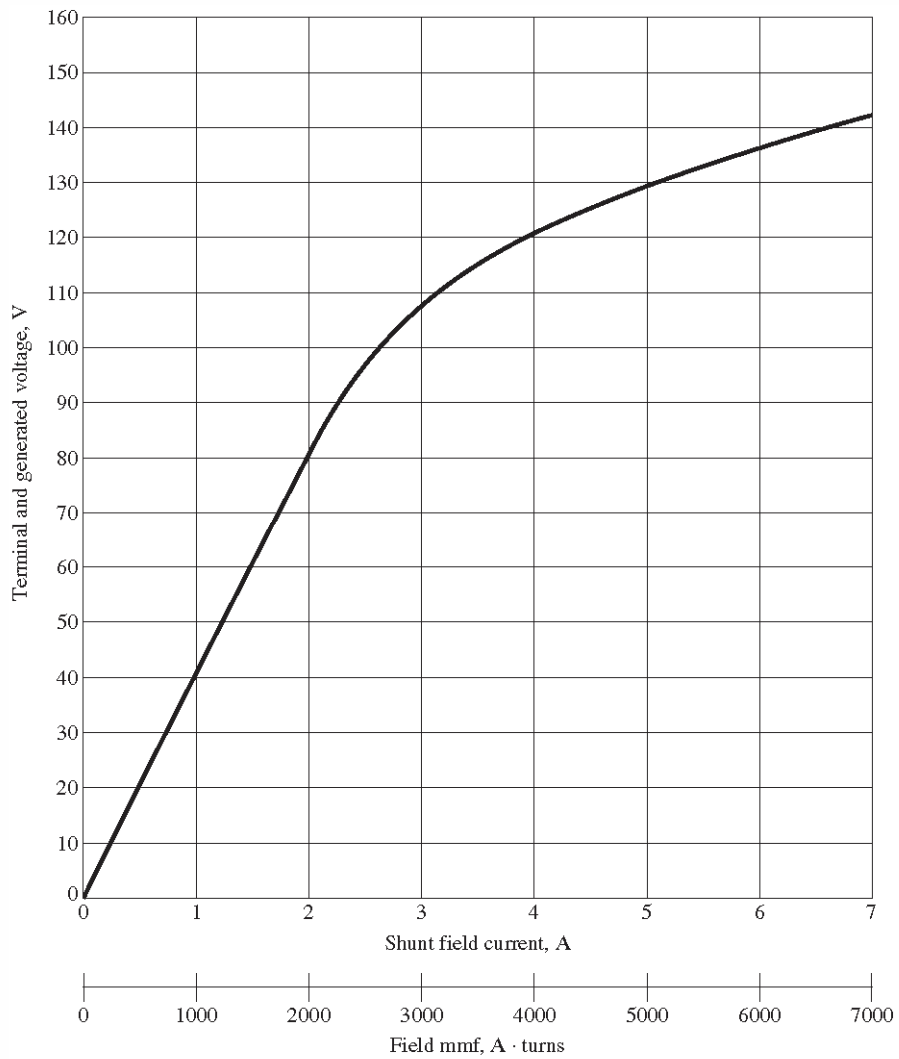
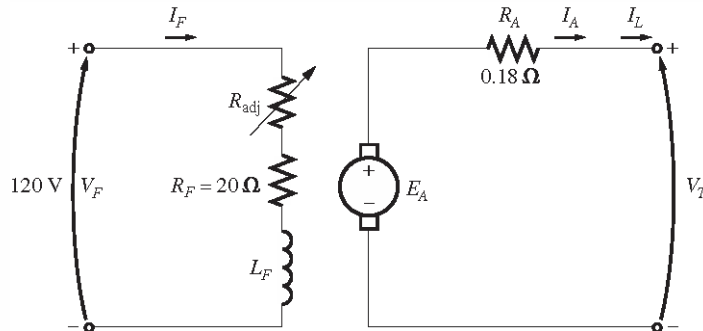

FIGURE P8-7
FIGURE P8-8
- 8-22.** The magnetization curve for a separately excited dc generator is shown in Figure P8-7. The generator is rated at 6 kW, 120 V, 50 A, and 1800 r/min and is shown in Figure P8-8. Its field circuit is rated at 5 A. The following data are known about the machine: